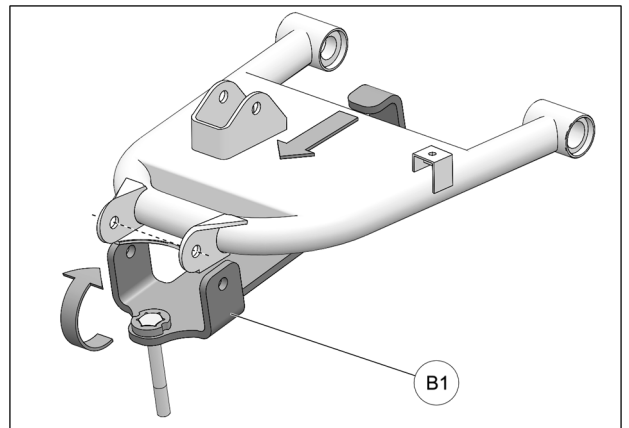

Fig. 8
7. Hook back end of bracket (**B1**) to the suspension arm's reinforcing plate and pivot front end up to align holes in bracket with holes in suspension arm. See Fig. 8